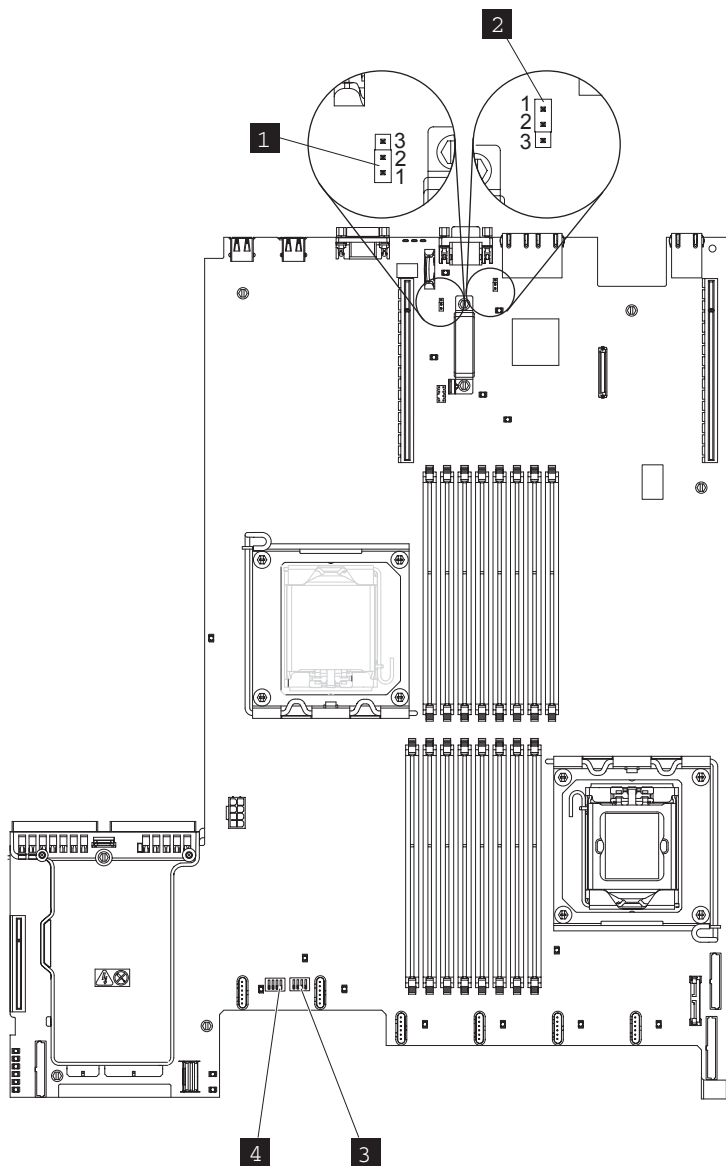

Figure 290. Setting jumpers on the system board
1. Unpackage the new system board and set its jumpers appropriately, as shown in Figure 290 on page 289.